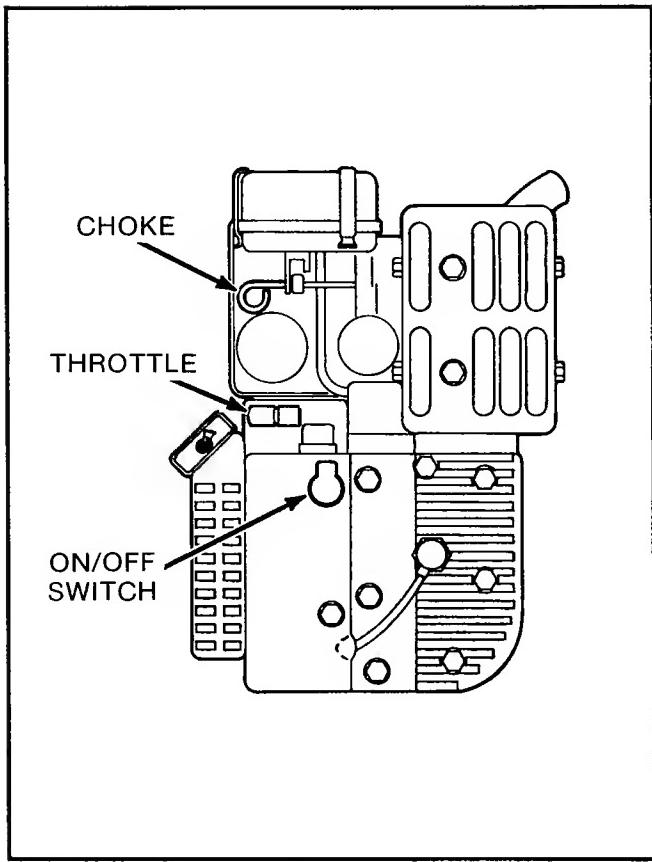

Figure 7
1. If your edger has a Kawasaki engine, set RED engine stop switch to ON position. Choke and throttle levers are on the right side of the edger between the engine and the air cleaner (Figure 7).